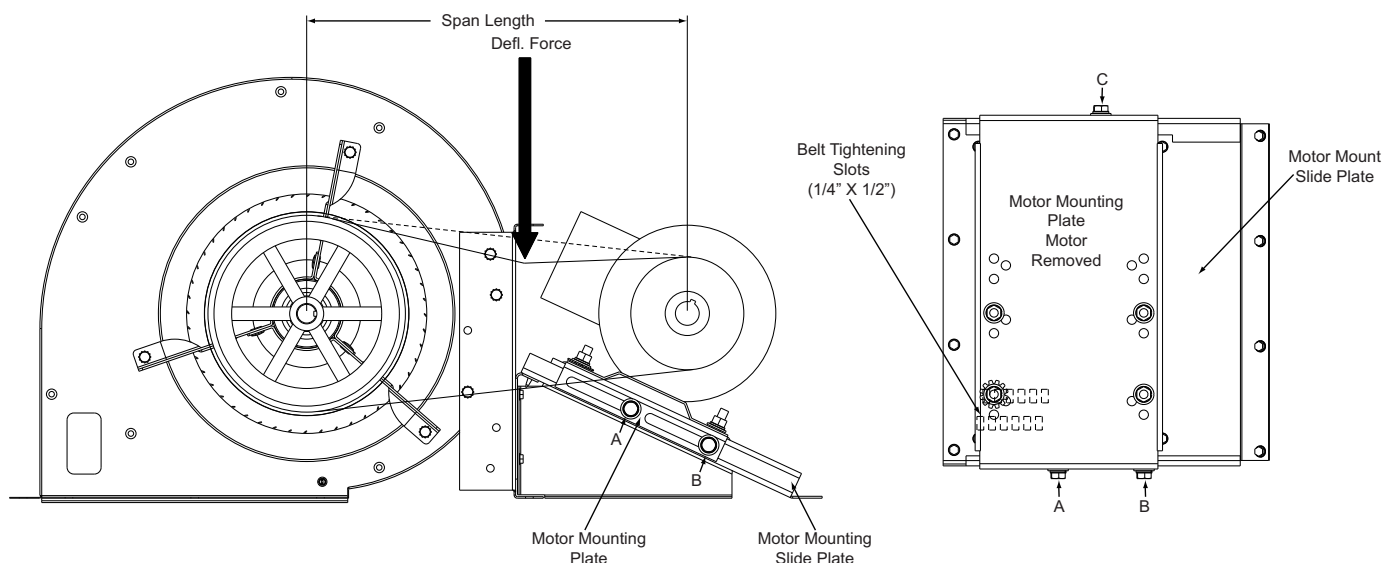

Figure 20: Belt Adjustment
The tension on the belt should be adjusted as shown in Figure 20.
2. Adjust tension by placing a flat heat screwdriver into the belt tightening slots (1/4" X 1/2") in the motor mount slide plate and applying pressure against the motor mounting plate. See Figure 20.